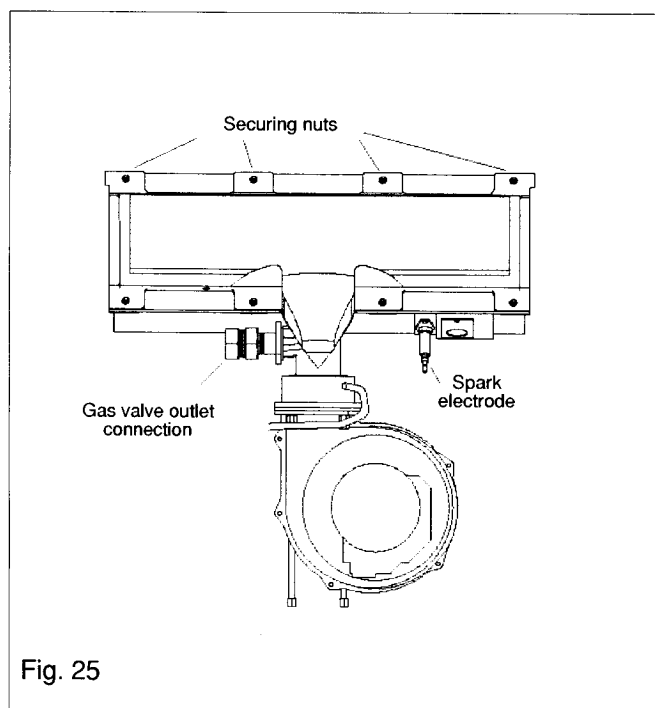

Fig. 25
6.13 BURNER (see fig. 25)
6.14 ELECTRODE (see fig. 25 & 26)